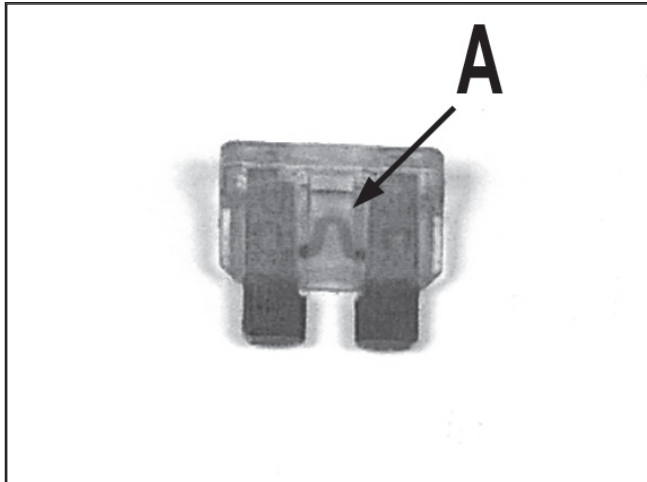

Figure 4
A blade type fuse may be checked visually. If the loop (A) is open, the fuse is blown. If in doubt, the fuse may also be tested with an ohmmeter (Figure 4).